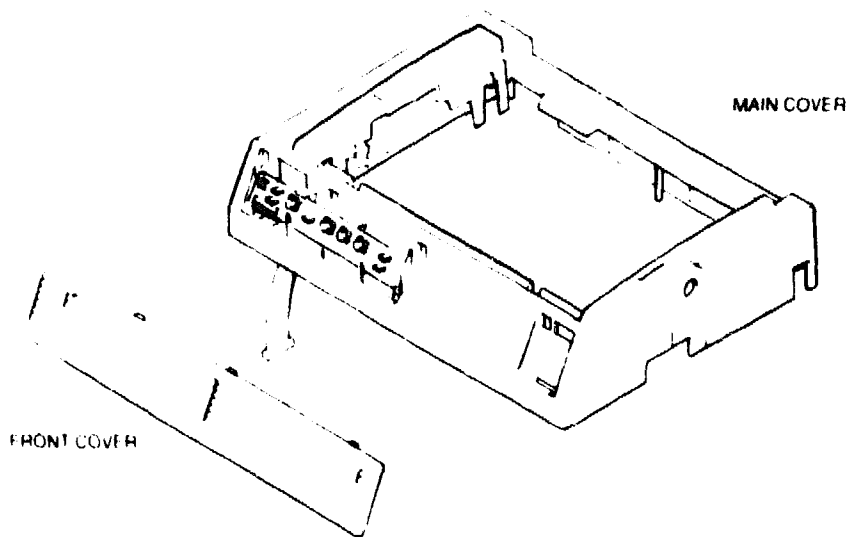

Figure 6-8 Removing the Front Moulding
7. Remove the front moulding by depressing the two retaining clips located on the upper inner surface of the main cover (see Figure 6-8).